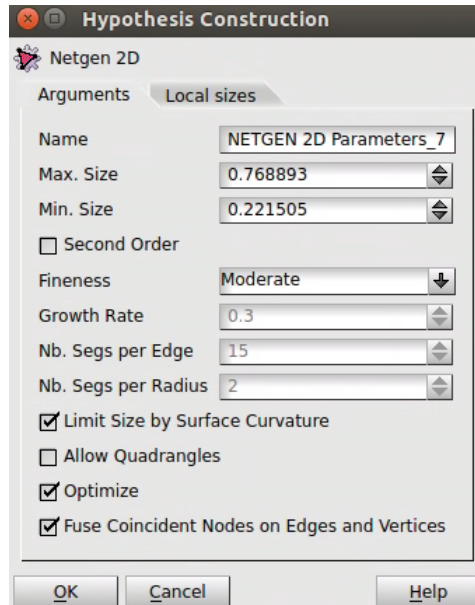

Figure 2: Screenshot of the Netgen 1D-2D hypothesis window in SALOME.
- Hypothesis: here we can specify the hypothesis to be used by the algorithm method. Clicking on the first icon on the right, we can specify the parameters of the algorithm. See the SALOME documentation for more details about the options. For example, for the Netgen 1D-2D algorithm, a window opens with all the options shown in the Figure 2.